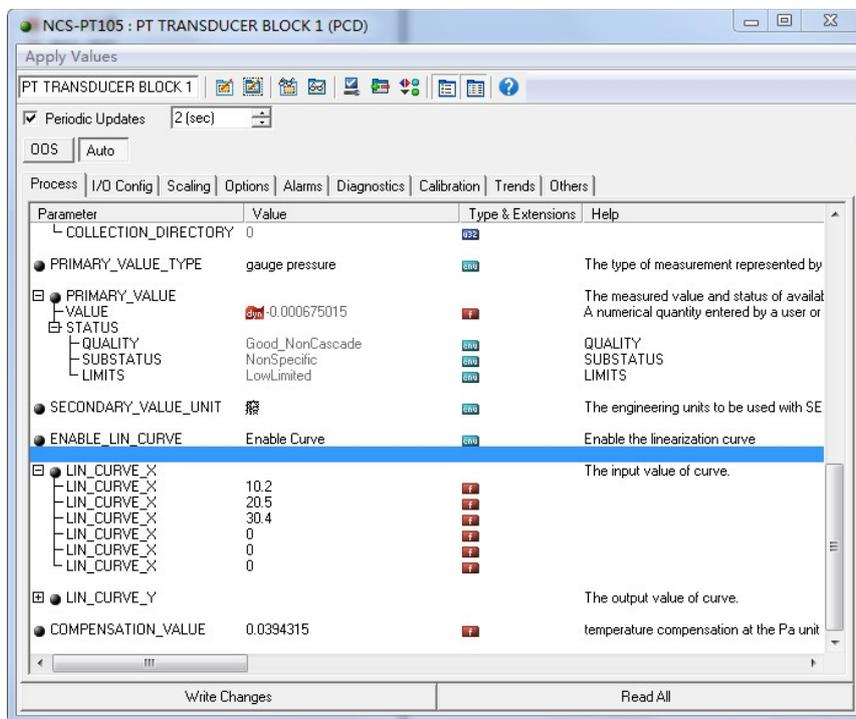

Figure 6.5 Configuration of the parameter LIN\_CURVE\_X
- 2) Enter the standard pressure through the ressor and open the corresponding transformation block on the configuration software, read the value of parameter PRIMARY\_VALUE and write the value to the LIN\_CURVE\_X array. For example, write the 10.2,20.5,30.4 read in the LIN\_CURVE\_X array, as shown in Figure 6.5. Finish this calibration work.